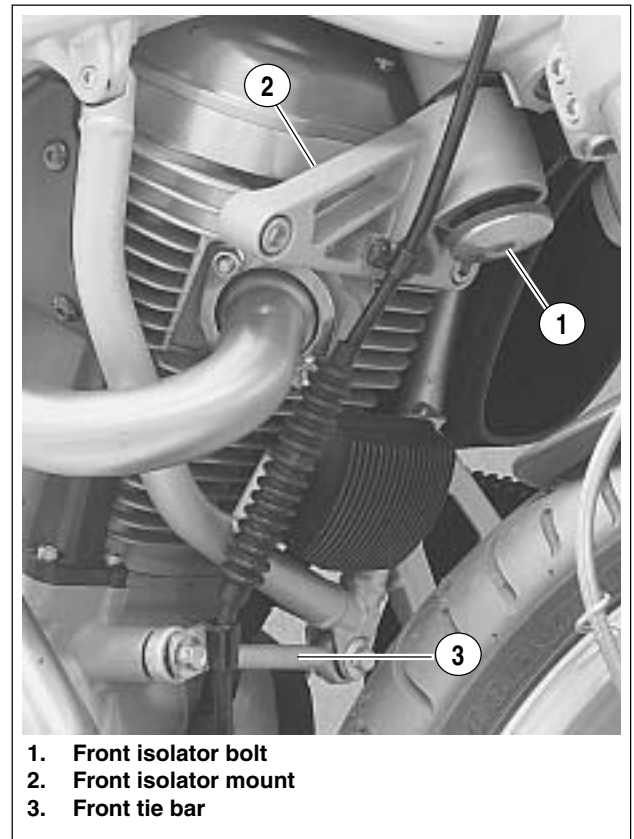

Figure 3-8. Front Isolator and Tie Bar Assemblies
23. See Figure 3-8. Remove front isolator bolt (1).
24. Remove front isolator mount (2) from engine.